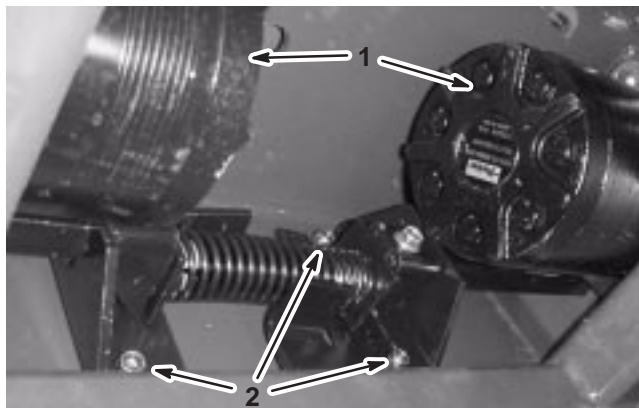

Figure 9
- Position the brake assembly under the traction unit against the back wall of the frame with the brake bars through the rectangular holes in the sides of the frame (Fig. 9).
- Secure the brake assembly to the frame with 4 bolts (5/16 x 1 in.) and locknuts (5/16 in.) (Fig. 9). The bolts should be pushed through the frame and brake brackets from the rear of the machine.